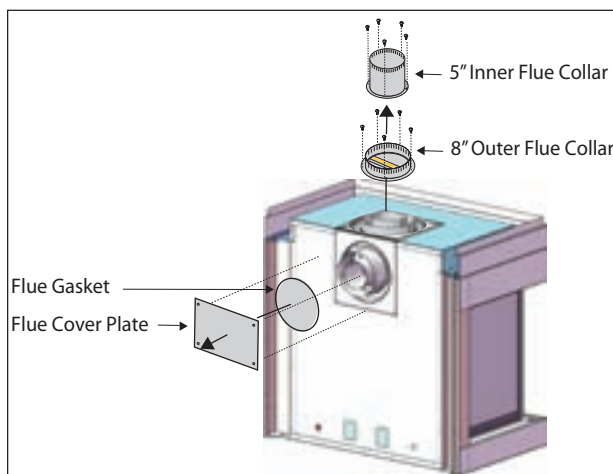

Figure 8. Flue cover and collar removal, Top Vented fireplace.
1. Remove the Rear flue cover and gasket (5" and 8") on the flue outlet, as shown in **Figure 8**.
2. Next, Remove the Top flue collar's (5" and 8") on the flue outlet, as shown in **Figure 8**.